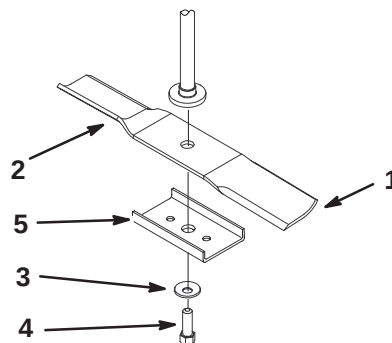
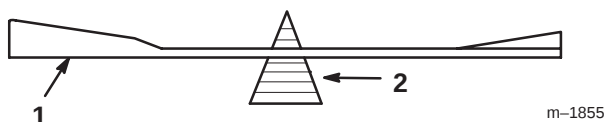

Figure 28
Figure 30
Hold the blade end using a rag or thickly-padded glove. Remove the blade bolt, curved washer, blade stiffener, and blade from the spindle shaft (Fig. 28).
2. Check the balance of the blade by putting it on a blade balancer (Fig. 30). If the blade stays in a horizontal position, the blade is balanced and can be used. If the blade is not balanced, file some metal off the end of the sail area only (Fig. 28). Repeat this procedure until the blade is balanced.
1. Install the blade onto the spindle shaft (Fig. 28).
2. Install the blade stiffener, the curved washer (cupped side toward the blade) and the blade bolt (Fig. 28). Torque the blade bolt to 35–65 ft-lb (47–88 N·m).